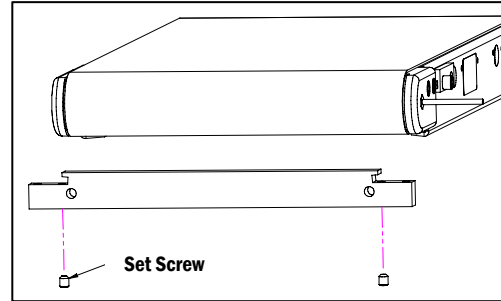

Figure 1
- Slide the mount into the conveyor's flange and tighten the set screw to the frame (**Figure 1**). The Mount can be located anywhere along the length of the conveyor frame.